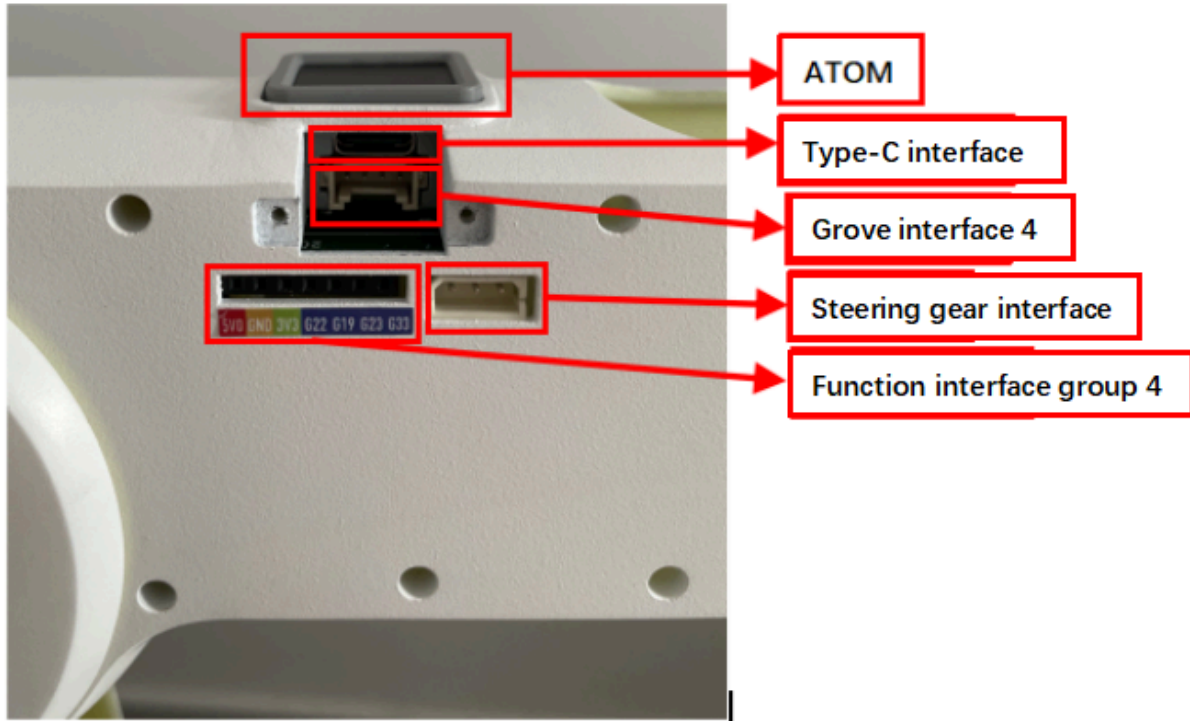

Figure 2-1 End of the manipulator
- A. Figure 2-1 show the side interfaces at the end of the manipulator.